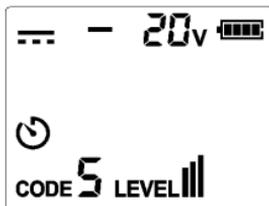

Figure 9.1b – DC Voltage Measurement
5. When the voltage is 8V~480V DC/AC (50/60Hz), and the measured voltage is DC voltage and the positive pole is connected to COM port, then the polarity of the port will be displayed. The polarity of V+ port will appear as “-”, as shown in **Figure 9.1b**.